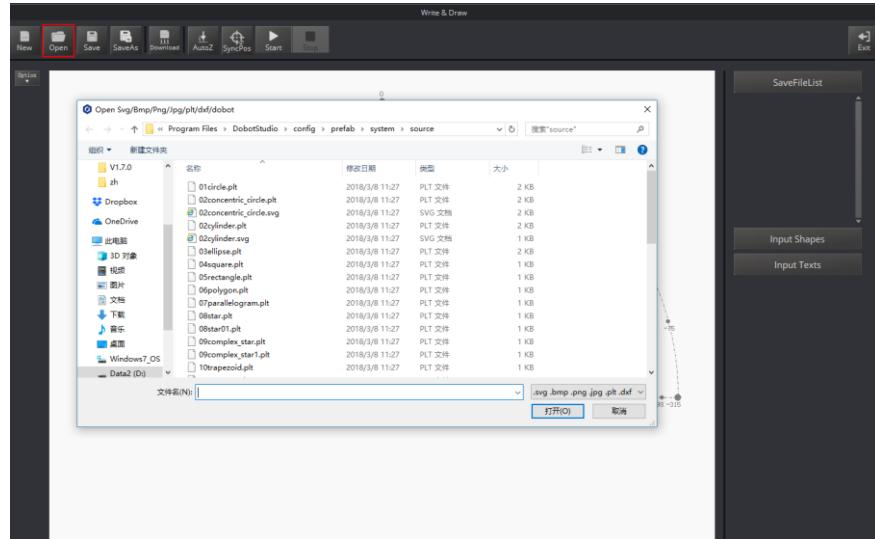

Figure 5.71 Open a PLT or SVG file
- Click **Open** on the **Write & Draw** page to import a built-in PLT or SVG image file from the DobotStudio installation directory **InstallatonDirectory\DOBOTSTUDIO\config\prefab\system\source**, as shown in Figure 5.71. You can also import your custom PLT or SVG image file.